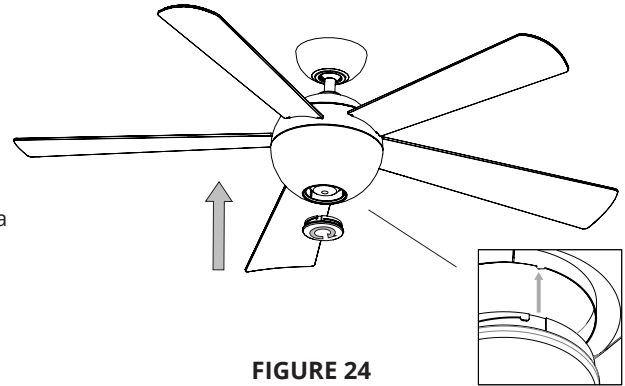

FIGURE 24
2. If installing the optional metal light cover, make sure it is securely tightened (Fig. 24).
NOTE: Add metal light cover if you do not need lighting function or prefer a different aesthetic (Fig. 24).